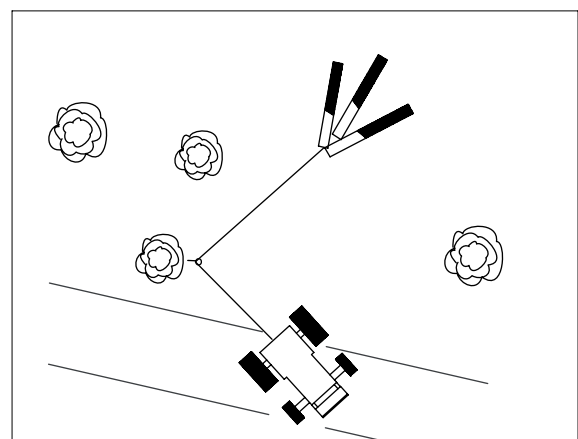

Fig. 7. Use a snatchblock to avoid winching sideways.
1. Choose a horizontal, hard based skidding route for the tractor. Avoid steep slopes, especially when winching from the side. Check that the winching trail is clear and that the tractor's parking brake is on. Do not run the tractor at a high idle when winching. Maximum PTO speed is 540 rpm. Ensure that the logs can be drawn freely. Be especially careful when working on slopes. Avoid winching sideways at angles exceeding 30 degrees. Use diverting pulley which is fastened to the tree if needed. (See fig. 7.)